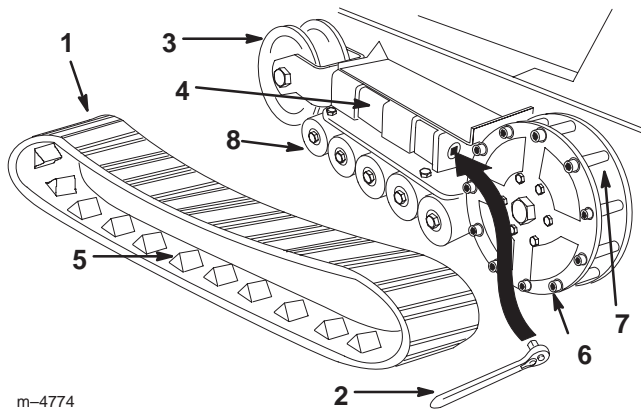

Figure 36
5. Push the tension wheel toward the rear of the unit to move the fork tube against the frame (Fig. 36). (If it does not touch the frame, continue turning the tensioning screw until it does.)
7. When the track is off of the tension wheel, remove it from the drive sprocket and road wheels (Fig. 36).
8. Beginning at the drive sprocket, coil the new track around the sprocket, ensuring that the lugs on the track fit between the spacers on the sprocket (Fig. 36).
9. Push the track under and between the road wheels (Fig. 36).